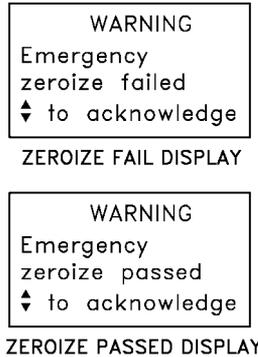

Figure 6-2 Zeroize Status.
- b. The PLGR acts like it was just turned on. It shows a test pattern of all dots, the copyright notice, battery status, and a status display indicating a pass or fail of the zeroize. See Figure 6-2.